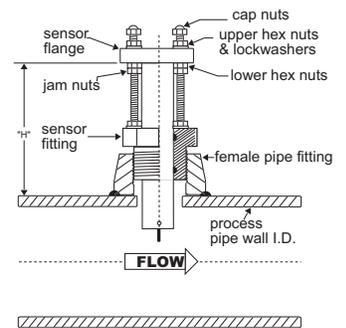

Fig. 7
- E. Thread upper hex nuts with lock washers until they contact the sensor flange and tighten. Check for proper "H" dimension and readjust if necessary. (Fig. 7)